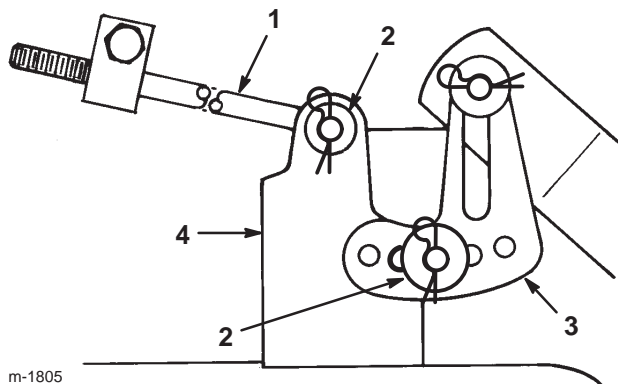

Figure 38
13. Slide the end of the long rod through the hole in the mower mount (Fig. 38).
15. Mount the slotted mower leveling bracket onto the pin on the height-of-cut arm (Fig. 38).